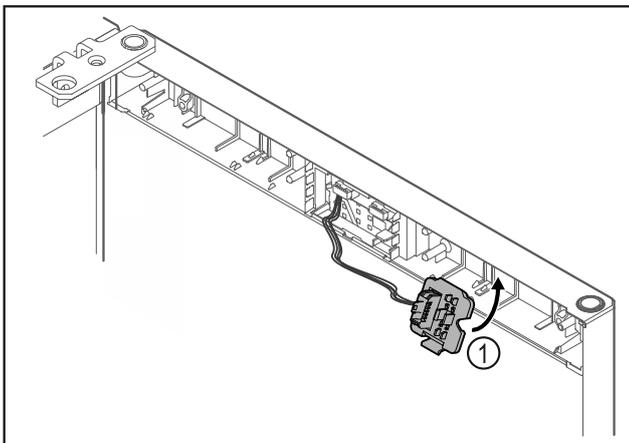

Fig. 14
- ▶ Engage the plug holder Fig. 14 (1) on the opposite side.*